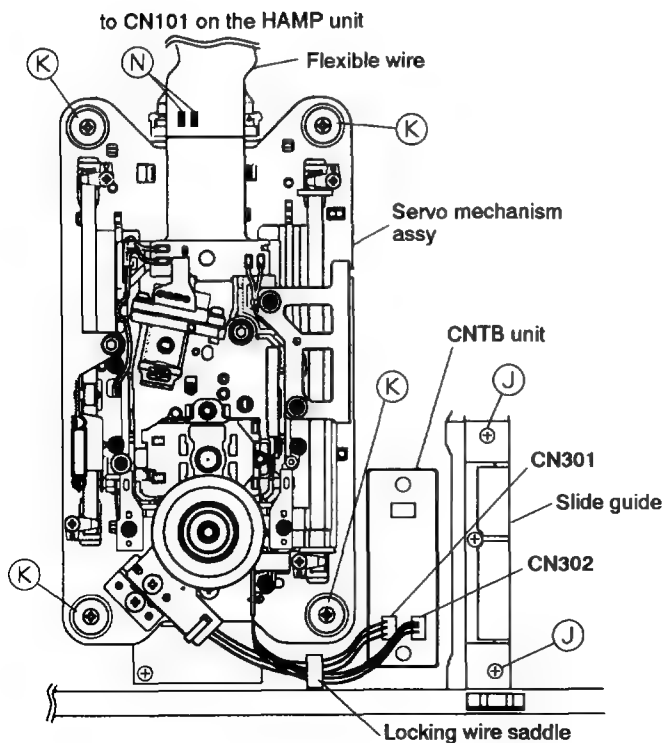

Fig. 5
### • Disassembling the Servo Mechanism Assy (Fig. 5)
2. Remove the two screws (J) to remove the slide guide.
3. Remove the four screws (K) fixing the servo mechanism assy.
\* Note : When removing the flexible wire, (N) portion in the figure is sure to short-circuit with the solder (Fig. 5).